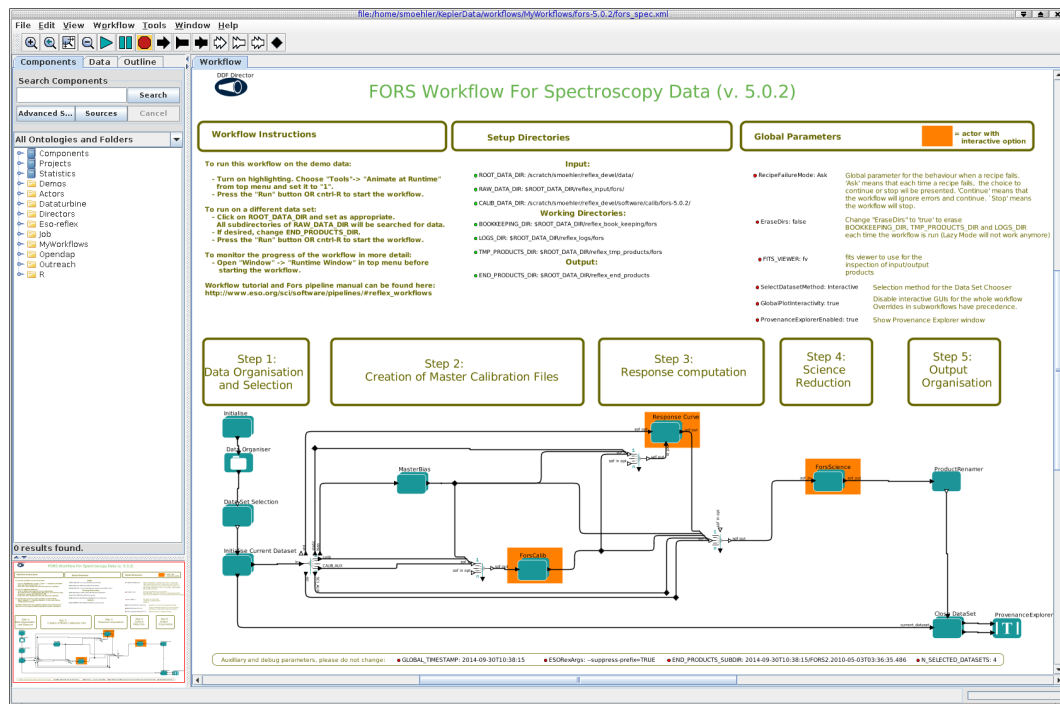

Figure 4.2: *FORS2 workflow general layout.*
2. Now open the FORS2 workflow by clicking on **File** -> **Open File**, selecting first `fors-5.0.8` and then the file `ForsSpec.xml` in the file browser. You will be presented with the workflow canvas shown in Figure 4.2. Note that the workflow will appear as a canvas in a new window.